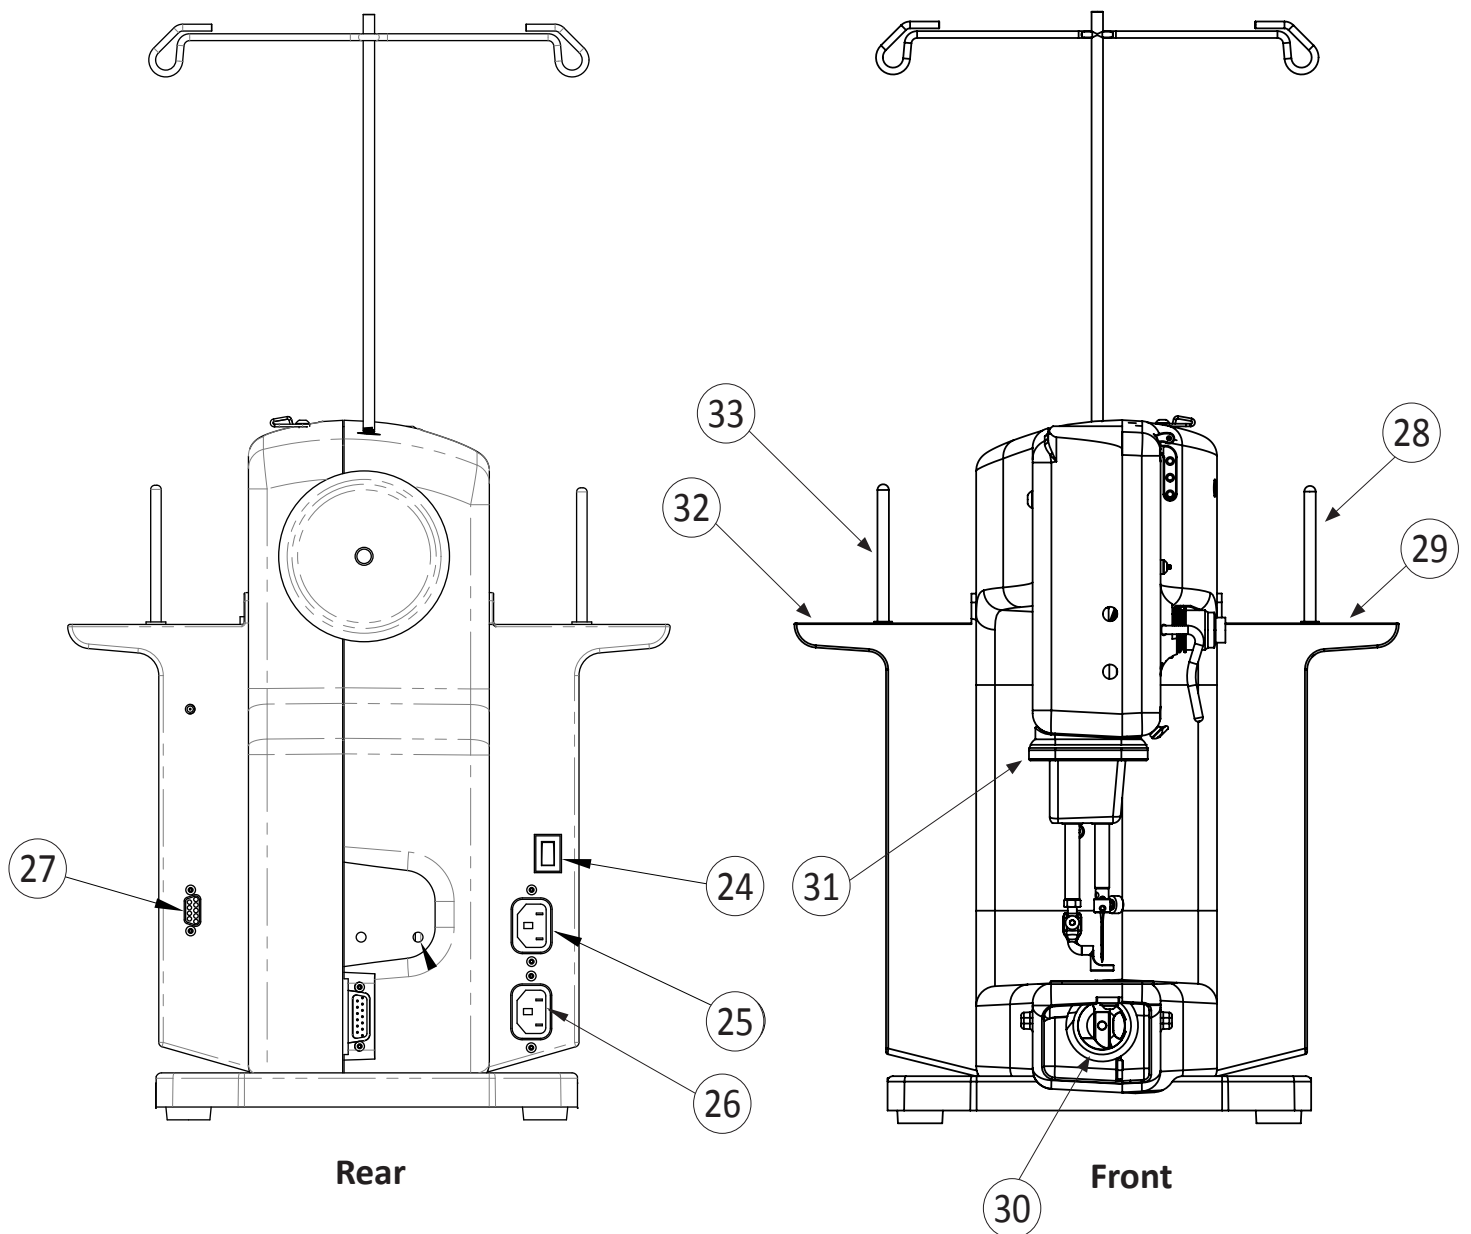

Figure 3
Check that the On/Off switch (page 11, Figure 3, #23) is turned off (the 0 setting). Plug the power cord into the top power outlet on the back of the machine (Figure 4). Do not plug the power cord into a power source at this time.
1. Plug in the foot pedal cord end into the foot pedal connector (see page 11, Figure 3, #26).